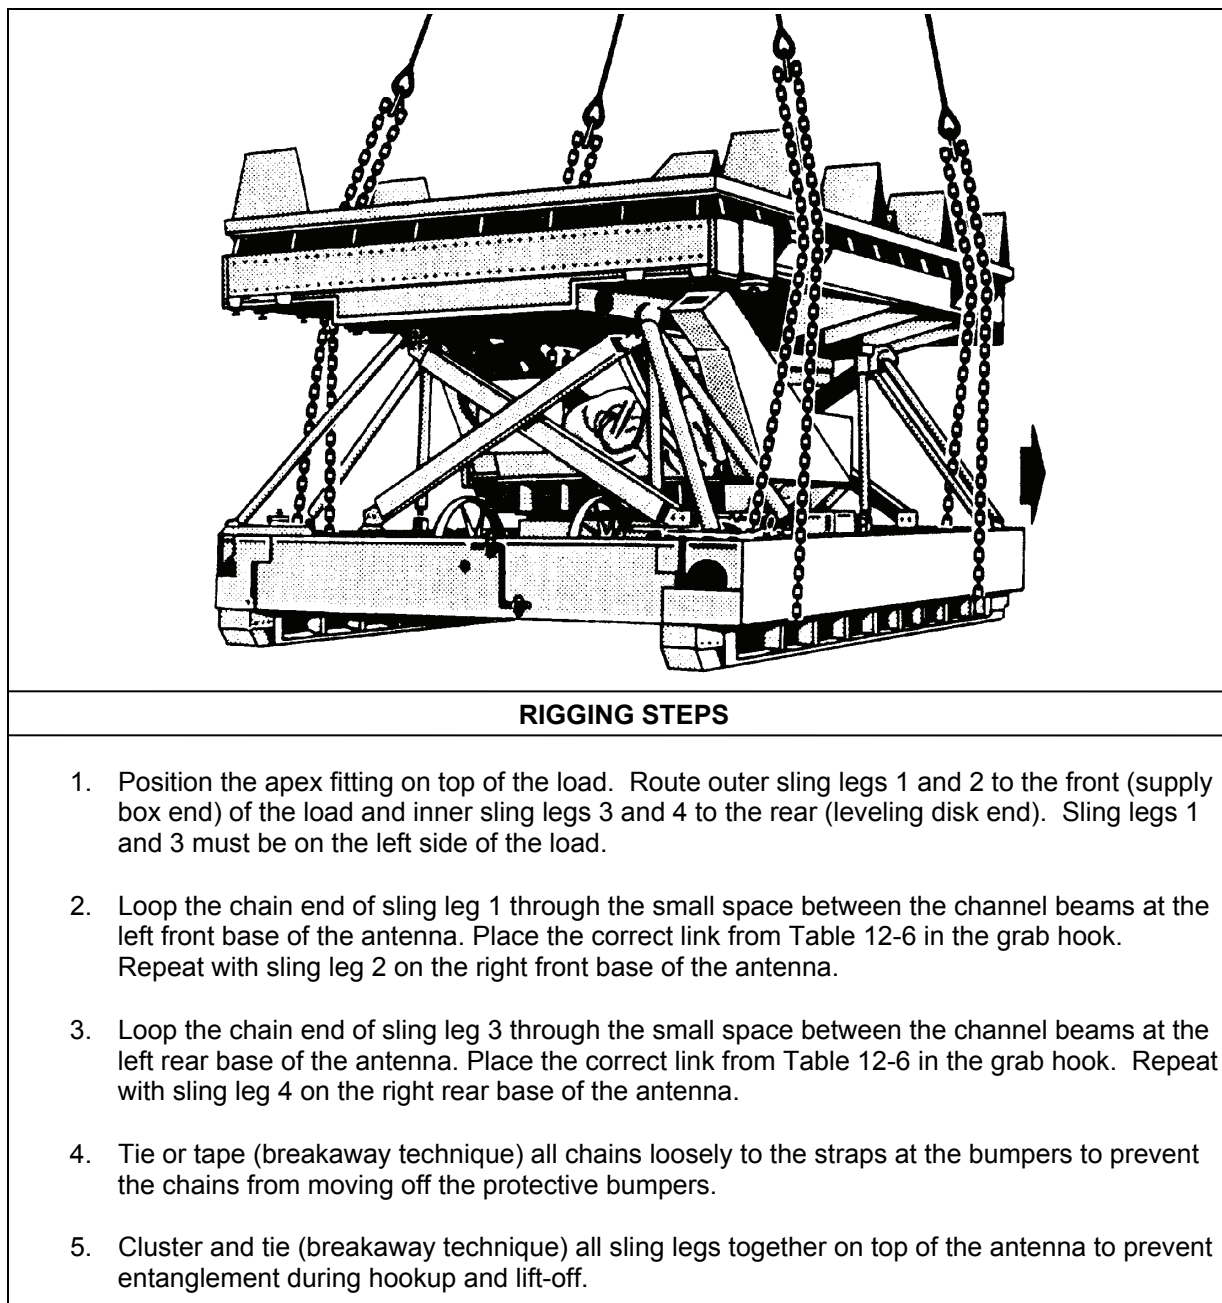

Figure 12-6. AS-3471/TPN-22 Antenna Pallet
- **Rigging.** Rig the load according to the steps in Figure 12-6.